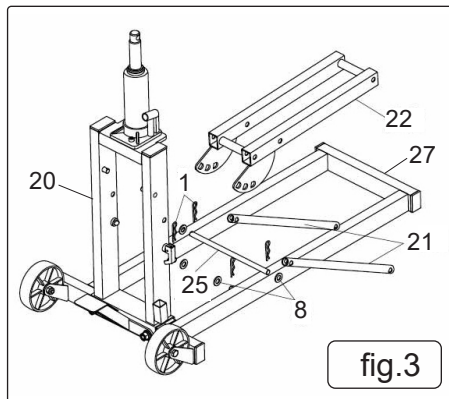

fig.3
- 4.1.4. Attach Lift Rotate Frame (22) to Upright Frame (Lower) (20). Push Pin for support brace (25) through the Upright Frame (Lower) (20) and Lift Rotating Frame (22). Place Support Brace (21) to connect the Steel Base Frame (27) and the Lift Rotating Frame (22). Align the bolt holes. Place Flat Washer (8) over each end of Pin for Support Brace (25). Secure each end of Pin for Support Brace (25) with R-Clip (1). (See fig.3).